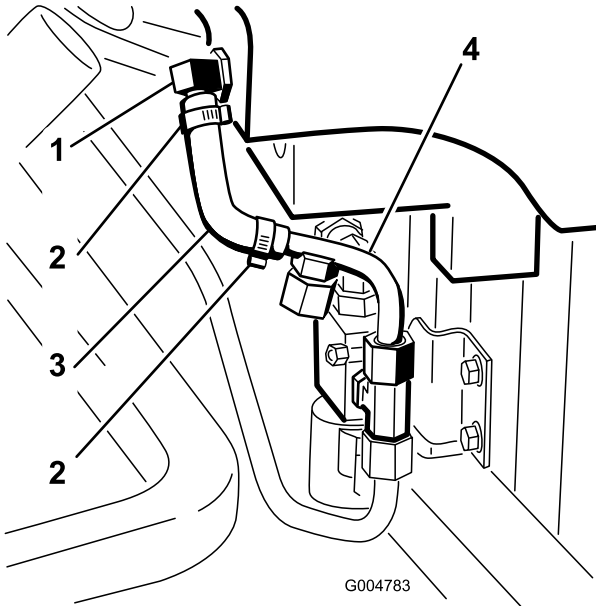

Figure 31
10. Install the long leg of the molded hose onto the 90 degree elbow in the hydraulic tank (Figure 31).
11. Install the short leg of the molded hose onto the barb end of hydraulic line number 4 (Figure 31).